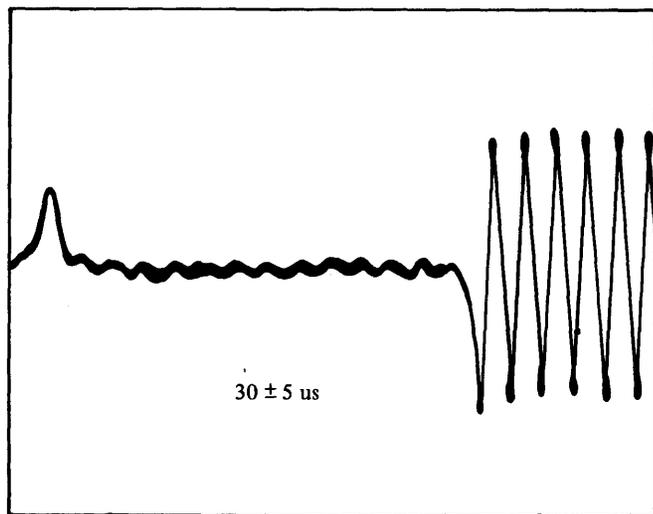

Figure 4-27. INDEX-to-Data Burst (Radial Alignment)
31. Adjust R55 on the Read/Write board such that the period from INDEX to data burst is $30 \pm 5\mu Secs$ as in figure 4-27.